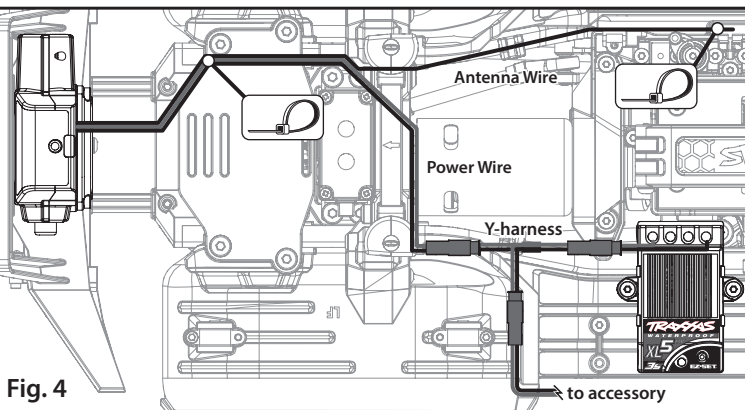

Fig. 4
- Fairlead (see Fig. 4, page 3)
- 2.5x10mm cap screws (2) (see Fig. 4, page 3)
**If you have another accessory installed**, such as an external BEC or LED lighting, plug the red male connector from the speed control into the red female connector from the included Y-harness as shown in Fig. 4. Plug the other red male connectors from the Y-harness into the red female connectors from the winch and the other accessory.